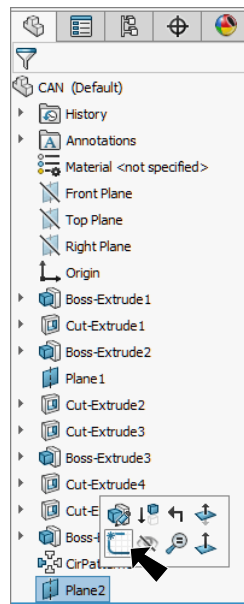

Fig. 99
Step 1. Click **Plane2** in the Feature Manager and click **Sketch** on the context toolbar, **Fig. 99**.